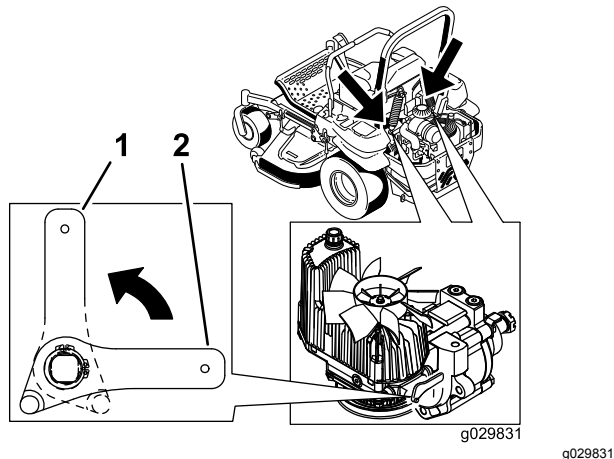

Figure 41
2. Rotate the release-valve levers vertically to push the machine (Figure 41).
4. Rotate the release-valve levers horizontally to run the machine (Figure 41).